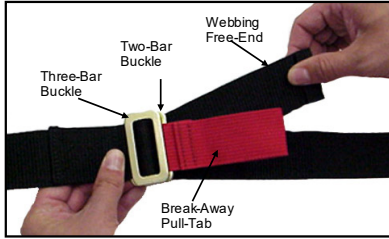

Figure 3, Seating the Buckles
- Pull slightly on the free end of the webbing to firmly seat the three-bar buckle on top of the two-bar buckle (fig. 3).